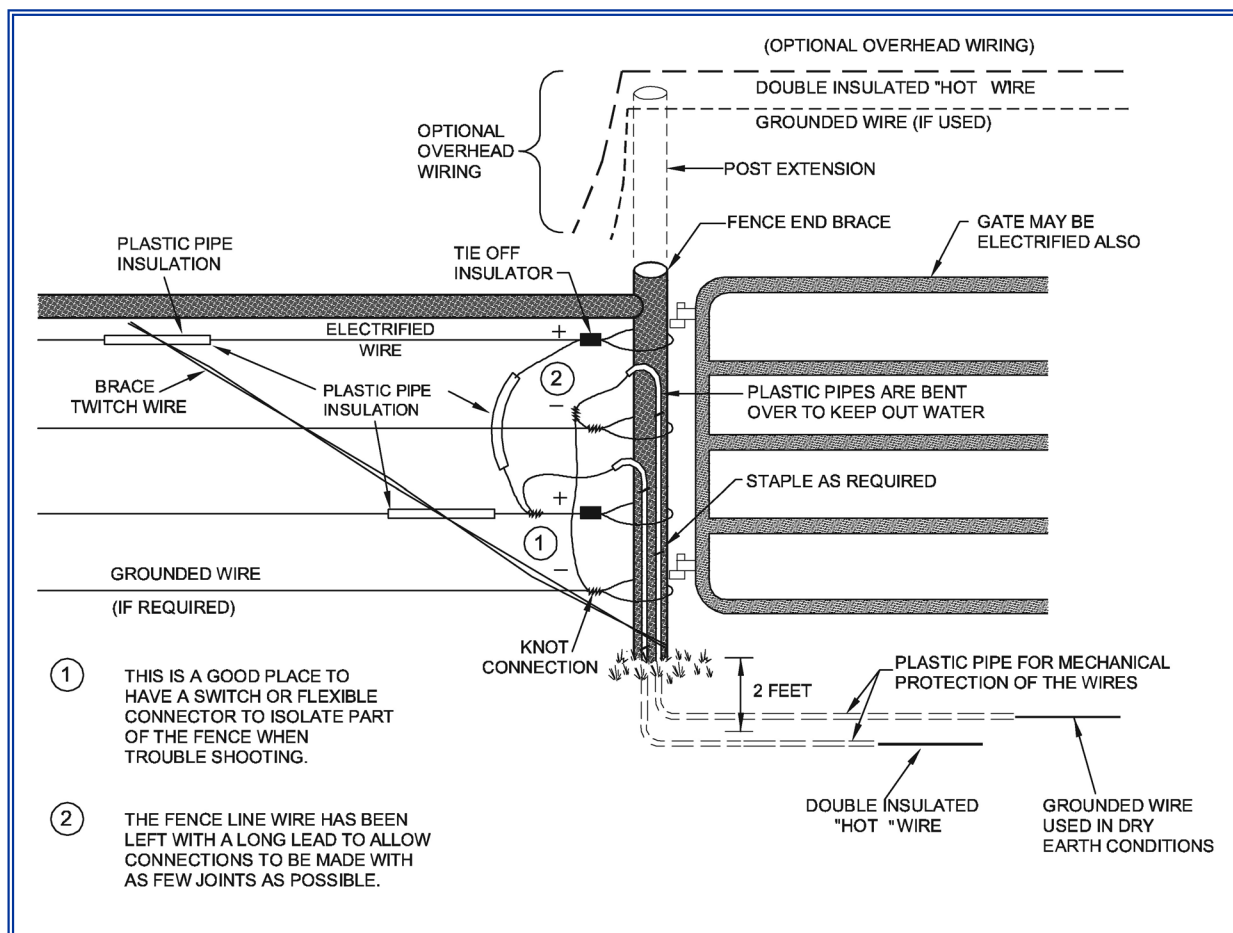

Figure 8 Wiring at a Gate
The width of gate openings may have to be larger than normal to overcome the animals' tendency to stay back from the electric fence. Refer to Factsheet No. 307.400-1 entitled ***Gates, Cattleguards and Passageways*** for examples of gates for electric fences, and Figure 8 in this factsheet for wiring at a gate.
- **under the gate.** This is usually the simplest method but requires good insulation and mechanical protection of the wire. Refer to Figure 8.